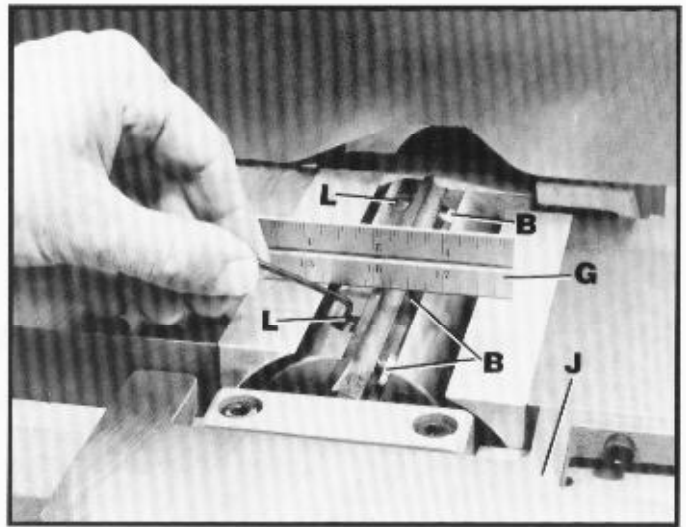

Fig. 32
- Lower the infeed table (J) Fig. 32, and place a straight edge (G) on the outfeed table extending over the cutterhead as shown.
- To raise the knife, use wrench as shown in Fig. 32, and turn screw (L) clockwise until the knife just touches the straight edge (G). Repeat this procedure on the other side of the cutterhead.
- Tighten the three knife locking screws (B) Fig. 32. Adjust the remaining two knives in the same manner.